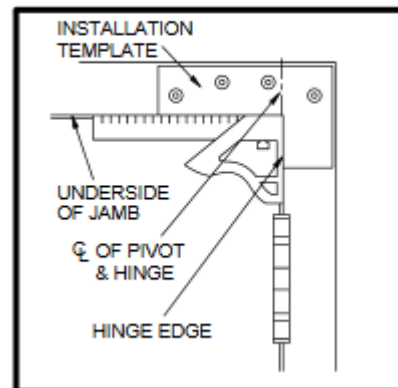

FIGURE 2
- REPOSITION THE DOOR PIVOT USING THE ALTERNATE BUSHING ON THE FRAME PIVOT. (Fig. 2 SHOWS THE B1921 / B1923 PIVOT ASSEMBLY AS BEING LEFT HANDED).